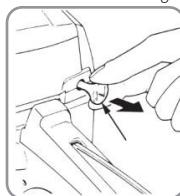

Fig. 9
3. Pull out the choke knob to the closed position (Fig. 9). Push 5 to 8 times until the primer is filled with fuel.